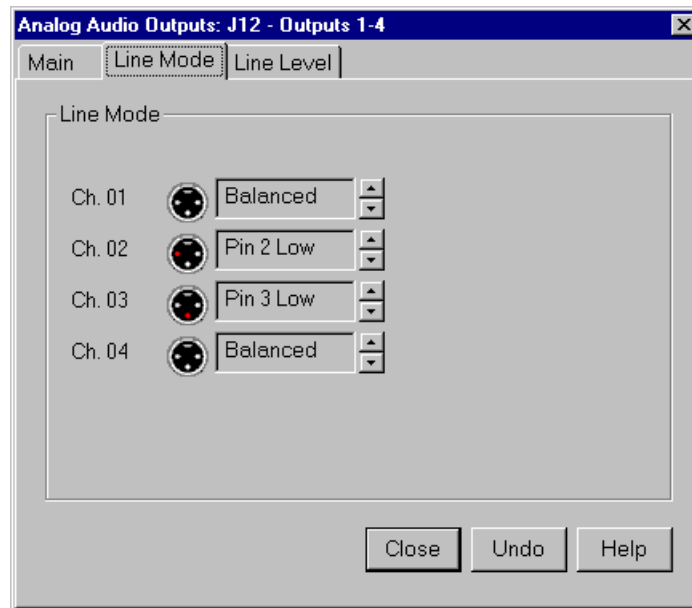

Figure 38. Analog Audio Output dialog box, Line Mode tab
1. In the Analog Audio Output dialog box, click the Line Mode tab (Figure 38).